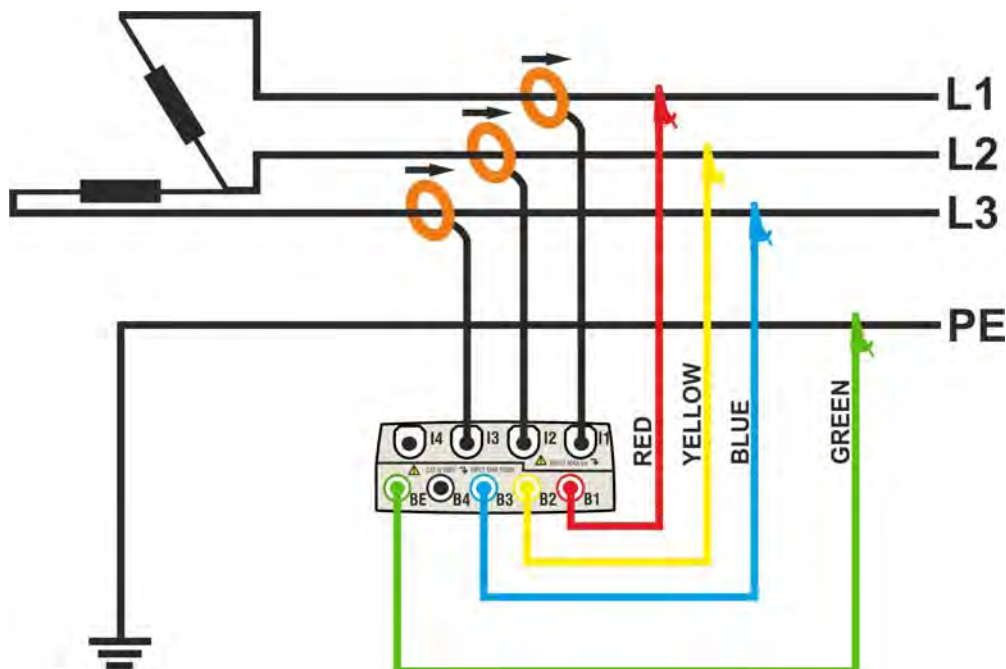

Fig. 141: Meter connection in a three phase 3-wire 3POD system – ENG_UK type
2. Connect voltage test leads on Phases L1, L2, L3 and PE cables considering the colours as shown in Fig. 141. **Verify the result “123” at display relative to a correct phase sequence indication** (see § 5.2.1) and perform the corrections if necessary.
3. Connect the transducer current clamps on Phase L1, L2, L3 cables as shown in Fig. 141 respecting the clamp's arrow direction indicating the current standard sequence from generator to load. **On Real Time Values' section screens (selecting a 3 wire system preliminarily) always verify the positive value of Active Power and the power factor relative to load which should be normally inductive** before starting a recording. Reverse the clamp by 180 degrees on cables in case of negative readings.